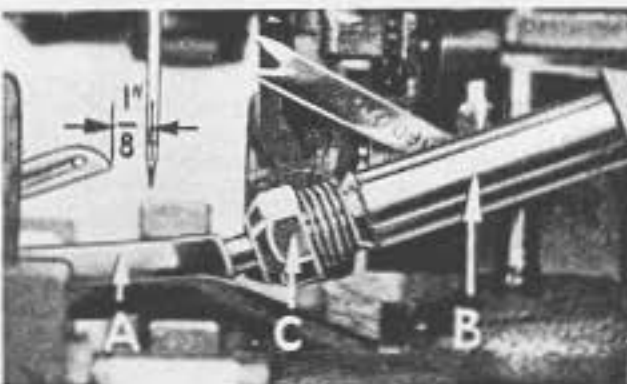

Fig. 5
At this point, insert lower looper (A, Fig. 5) into bar (E). With lower looper at left end of its stroke, set looper point 1/8 inch from center of needle (Fig. 5), using looper gauge No. 21225-1/8. Do not have lower looper deflecting needle. Tighten nut (C).